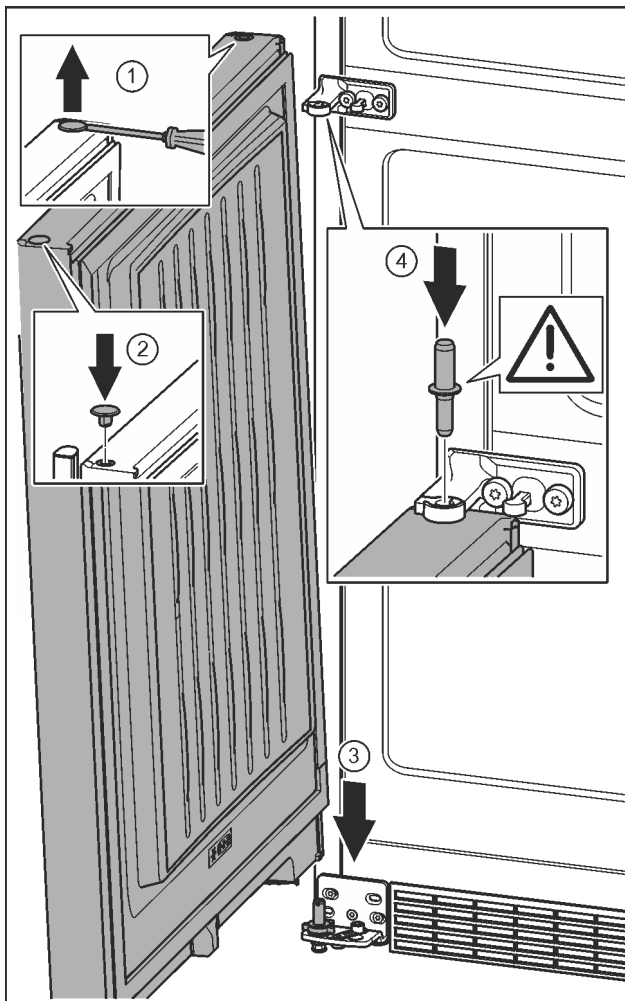

Fig. 38
- ▶ Carefully lift up the plugs with a slotted screwdriver and remove them. Fig. 38 (1)
- ▶ Insert the plugs again on the other side of the door. Fig. 38 (2)
- ▶ Position the door from above onto the lower bearing pins. Fig. 38 (3)
- ▶ Insert the centre bearing pin through the centre bearing bracket into the lower door. Make sure that the catch mechanism is pointing to the rear. Fig. 38 (4)